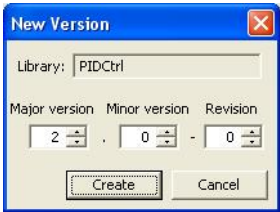

Figure 350. New Version Dialog Box
- Select the predecessor object (below the Library object) and open the Library Version Definition aspect. Click **New Version** under the General tab. A New Version dialog box will appear where you confirm the new version number. See Figure 350. Click **Create**.